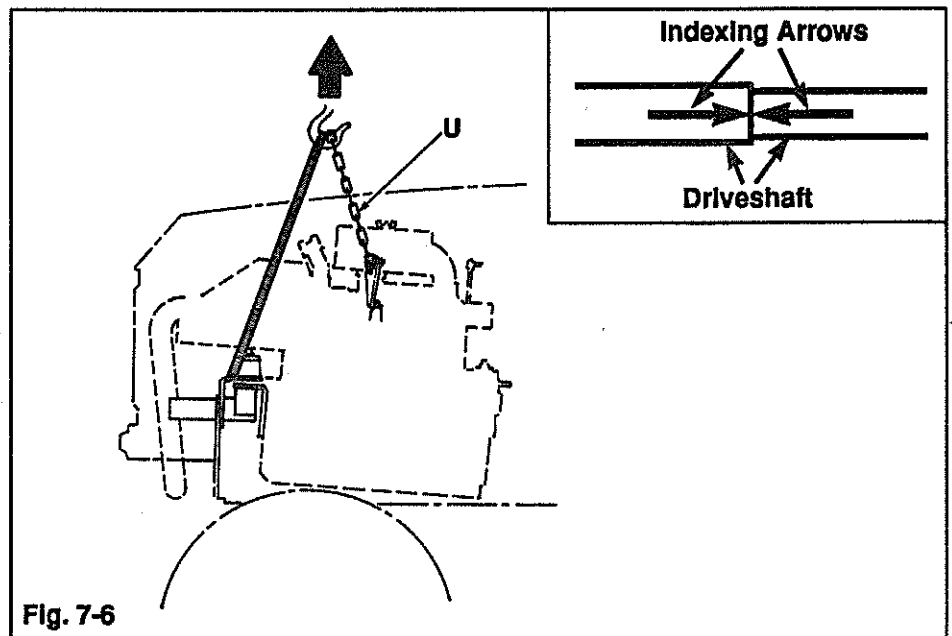

Fig. 7-6
3. When the engine is approximately 3" ahead of its mounts, the driveshaft sections should be joined from under the tractor. **NOTE: the driveshaft is balanced as an assembly and marked with indexing arrows during manufacture. Be certain to re-assemble the driveshaft with these arrows aligned to maintain driveline balance (Inset, Fig. 7-6).**
Fig. 7-6), and lift slightly on the front of the engine until the holes align and the four 3/8" cap screws can be installed between the frame rails and the front engine mount plate.